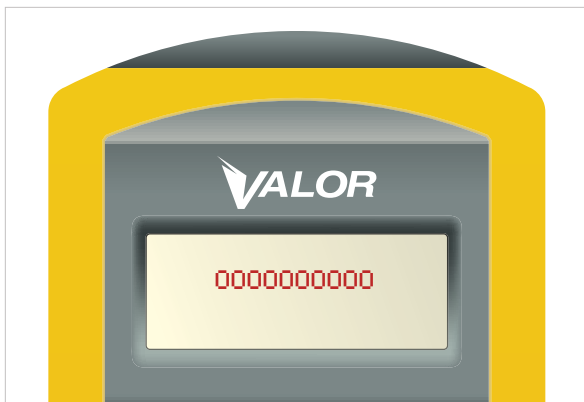

Figure 10
3. A series of zeros will scroll across the SmarTool indicating a search for sensor. When it locates the sensor, the SmarTool will beep once. (Figure 10)